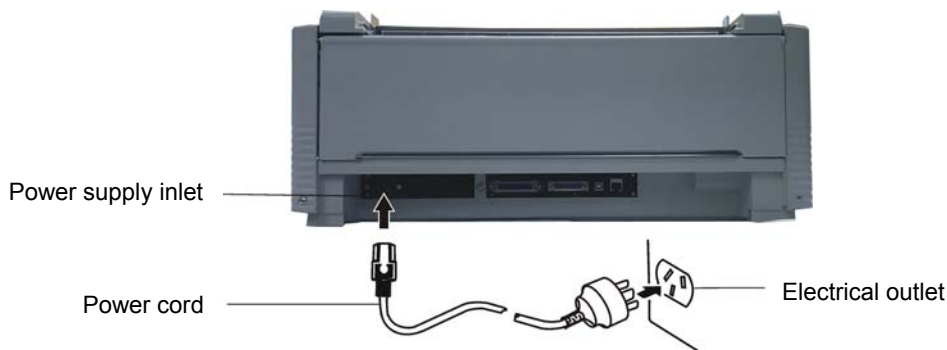

Figure 2-13 Connect the power cord to the printer
1. As shown in Figure 2-13. Make sure the printer is turned off. (The pressed down side of the power switch with "O" marks denotes the printer is off.)